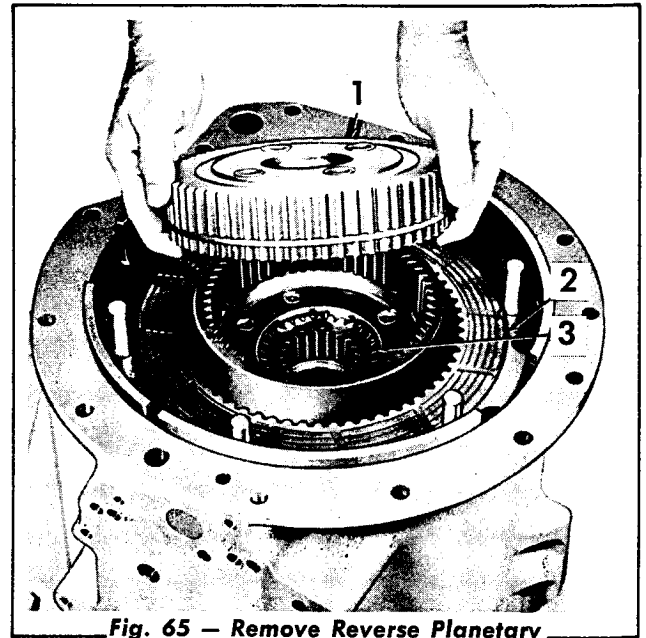

Fig. 65 — Remove Reverse Planetary Carrier Assembly
3. Remove the reverse planetary carrier assembly (Fig. 65) and the remaining clutch plate. Remove the forward sun gear.